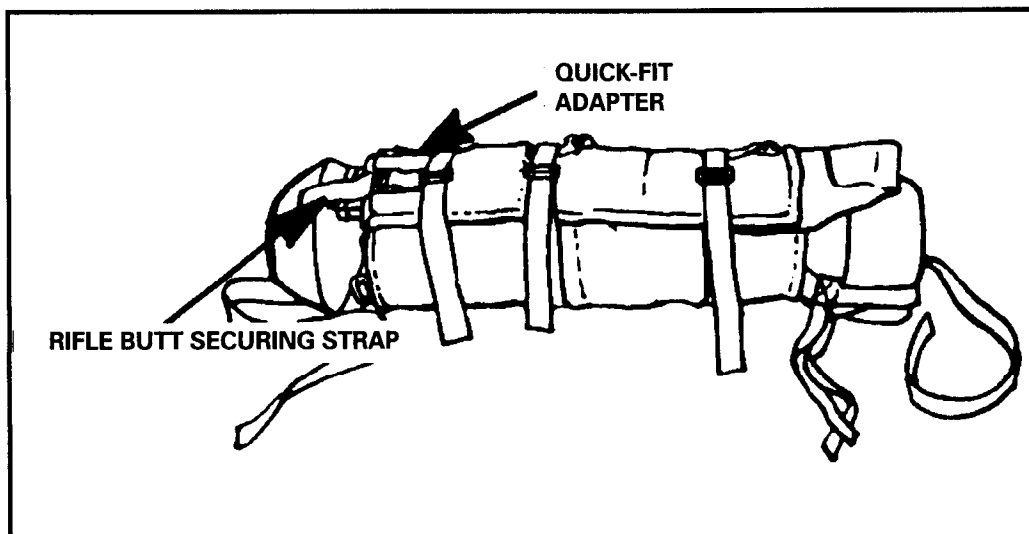

Figure 12-34. Pack closed.
- (1) Fold the outer flap of the jump pack over the weapon (if packed).
- (2) Route the three horizontal securing straps through the quick-fit adapters using a quick-release fold, but do not tighten.
- (3) Route the rifle butt securing strap through the quick-fit adapter. Tighten the strap as much as possible, using a quick-release fold (Figure 12-34).